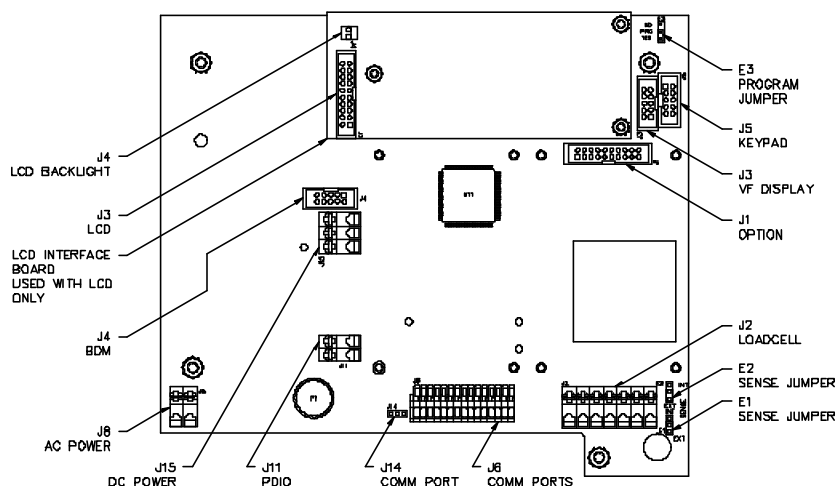

Figure 2-6: 560 Series Main Board
4. Carefully lift the rear panel from the enclosure, and disconnect the keypad ribbon cable from J5 on the main printed circuit board (see Figure 2-6).
1. Connect the keypad ribbon cable to J5 on the main board (see Figure 2-6).